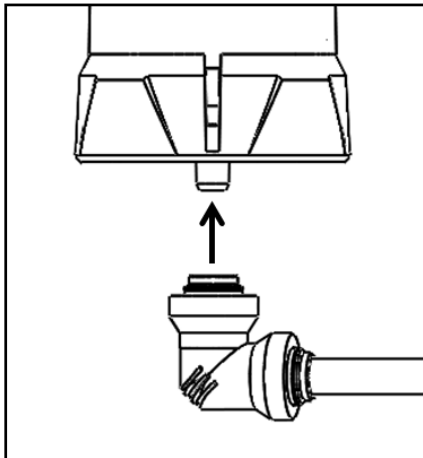
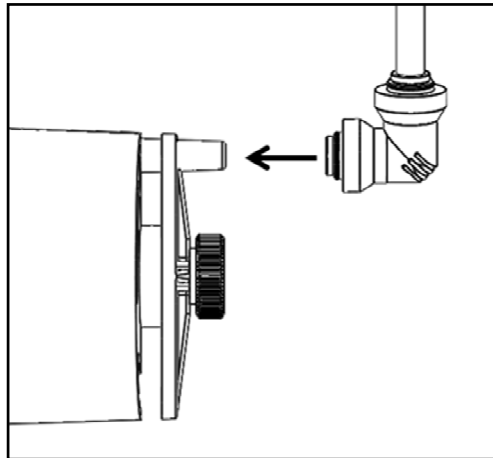

Figure 10
Figure 11
- (7) If using a non-IR sensor, attach the tubing elbow to the sensor guard as shown in Figure 10. If using an XIR Plus sensor, attach the tubing to the sensor as shown in Figure 11.